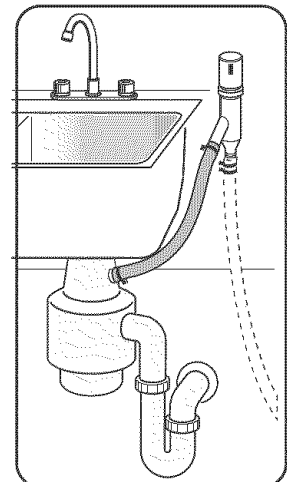

Figure 21
- 4) To a disposer dishwasher drain connection through an air gap, as shown on Figure 21.